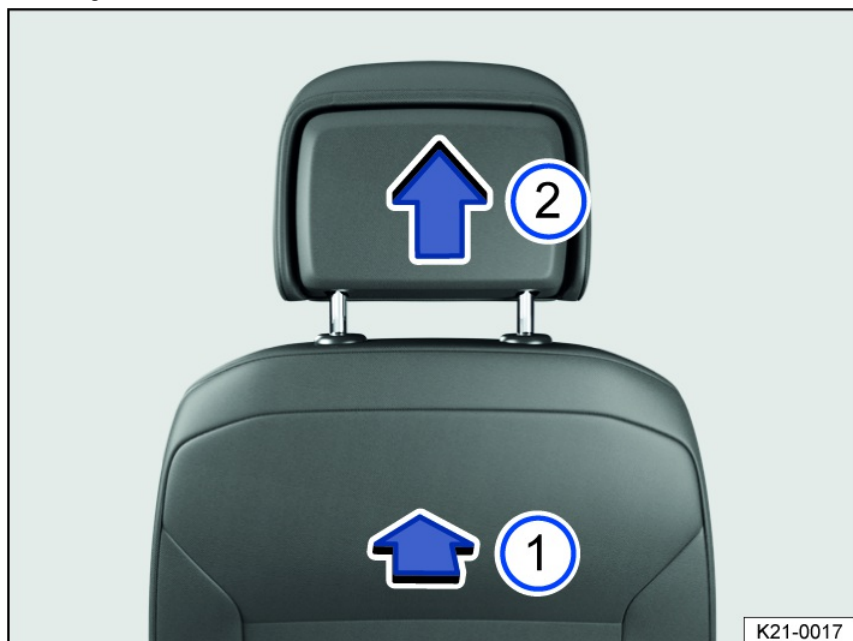

Fig. 73 Removing the front head restraint (general example).
2. To release, find the notch on the rear side in the marked area fig. 73 and push and hold in the direction of the arrow.
3. Pull out the head restraint in the direction of the arrow fig. 73.